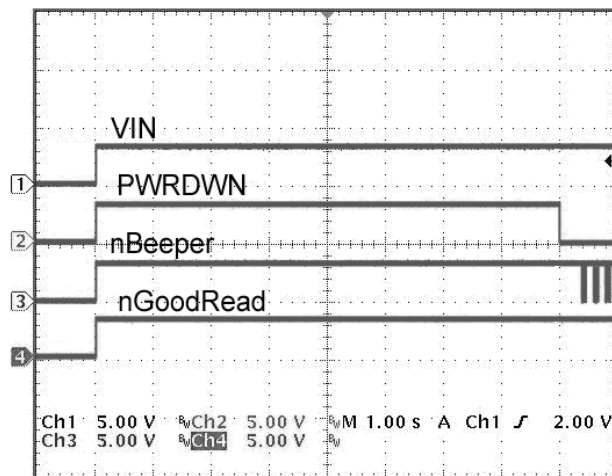

Figure 20. Power Up / Boot Up Sequence of USB Version
The power up sequence of the decode engine depends on the interface type. For the USB version, a USB Microcontroller controls the power to the decoding platform and imaging engine via a power switch. When power is initially applied, only the USB controller is active and begins the process of enumeration. Once enumeration is complete, the USB controller turns power on to the imaging engine and decoding platform. As a result, powering up the engine is completely controlled by the on board USB controller per the USB specifications. In this version, only Idle and Sleep Modes are supported. For additional power savings, the unit must be placed in Suspend Mode per the USB specification. Figure 20 shows the power up sequence of the USB version of the decode engine.
**Note:** The PWNDWN signal remains high until the Decode platform transitions to Idle Mode and is ready to accept commands. In the USB version, the PWNDWN Pin will only be high during this boot up condition or when the Decode enters, Suspend Mode. From Figure 20, it can be seen that the entire boot up sequence takes approximately nine seconds.